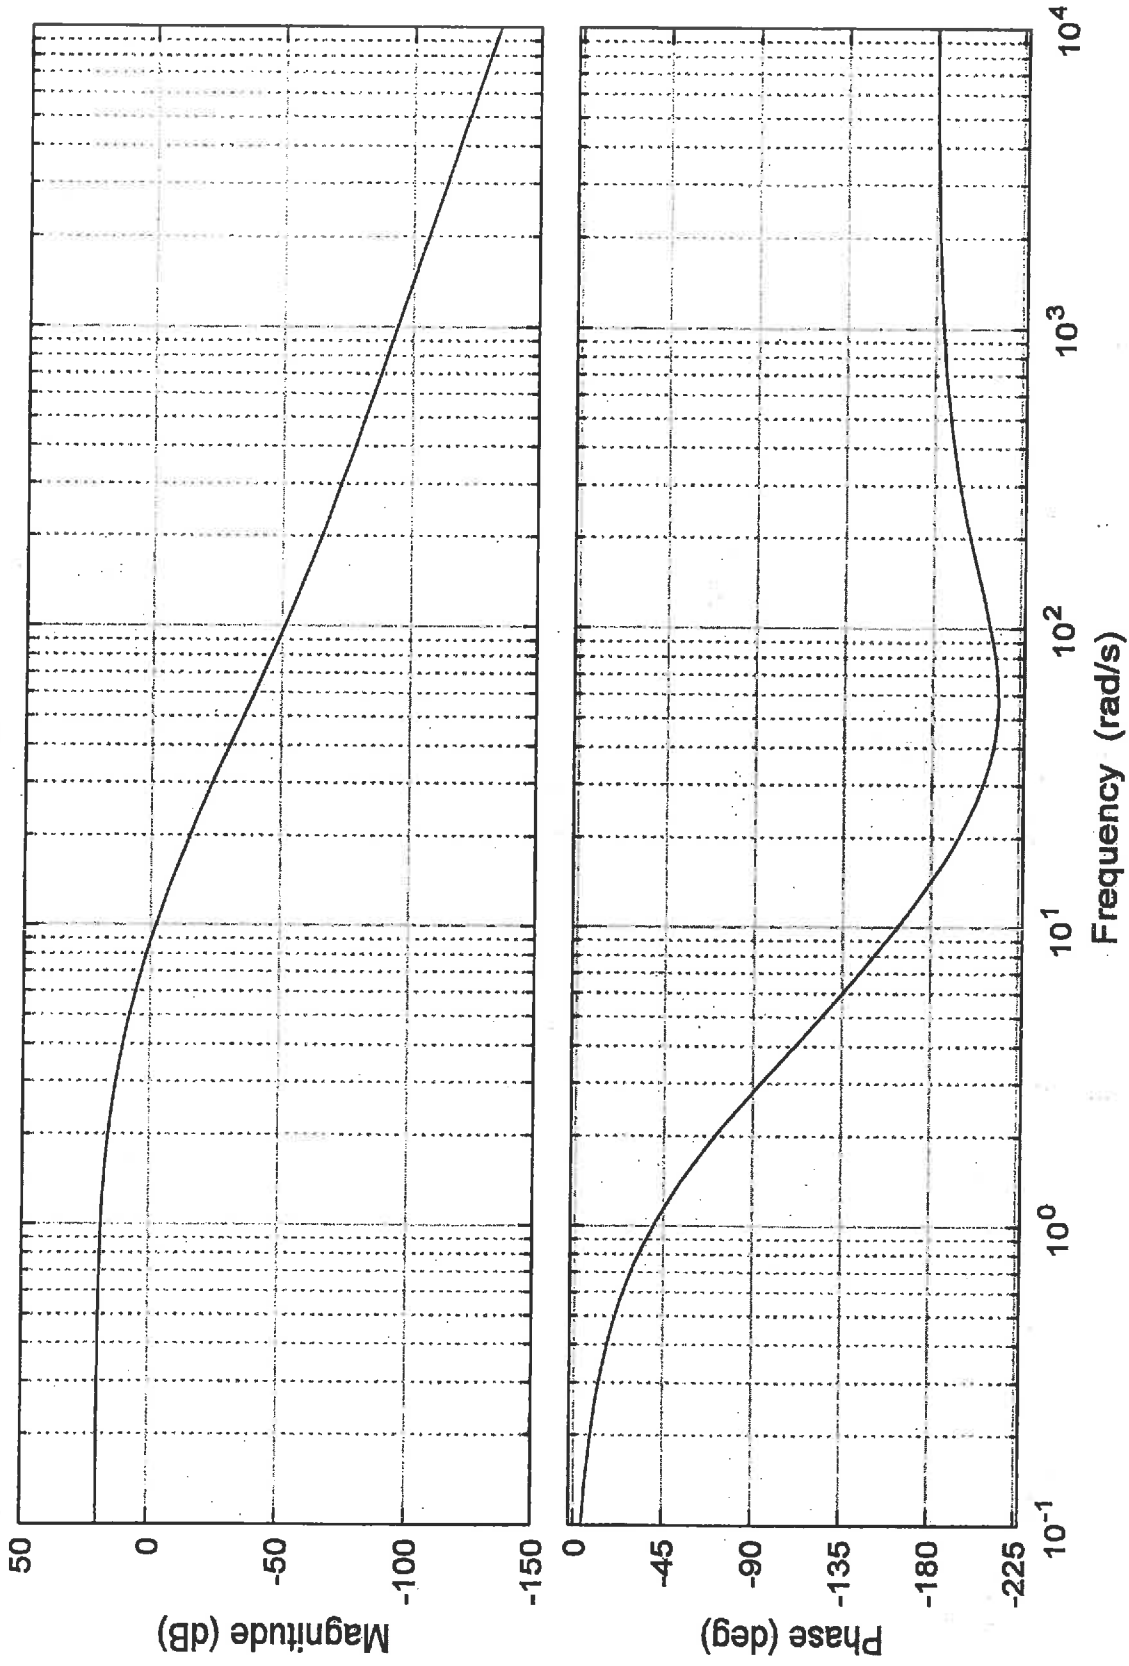

Figure Q5.2 -- Open Loop Uncompensated System Frequency Response
Figure Q5.2 shows the uncompensated open loop frequency response plots (both magnitude and phase). Based on the information provided, create another equivalent second order model for the uncompensated closed loop system. Calculate the model parameters: DC Gain, K_{dc} , the damping ratio, ζ , and the frequency of natural oscillations, ω_n , and write the model transfer function, $G_{m2}(s)$.
Consider the same closed loop unit feedback control system as in Question 5, with the uncompensated open loop frequency response plots shown in Figure Q5.2, on page 12. The closed loop system is to be compensated by a Lag Controller with the transfer function described below as $G_c(s)$. Note that for $G_c(s)$ to represent the Lag-type Controller transfer function, the pole at $-\frac{1}{b_1}$ has to be closer to the Imaginary axis than the zero at $-\frac{a_0}{a_1}$.
1. **(15 marks)** Calculate the appropriate Lag Controller parameters and the Controller transfer function. Show the general shape of the compensated frequency response by overlaying it on top of the uncompensated plot in Figure Q5.2.